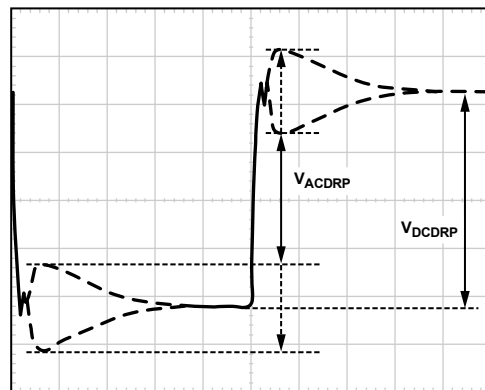

Figure 29. AC Load Line Waveform
5. The resulting waveform will be similar to that shown in Figure 29. Use the horizontal cursors to measure V_{ACDRP} and V_{DCDRP} , as shown in Figure 29. Do not measure the undershoot or overshoot that occurs immediately after the step.